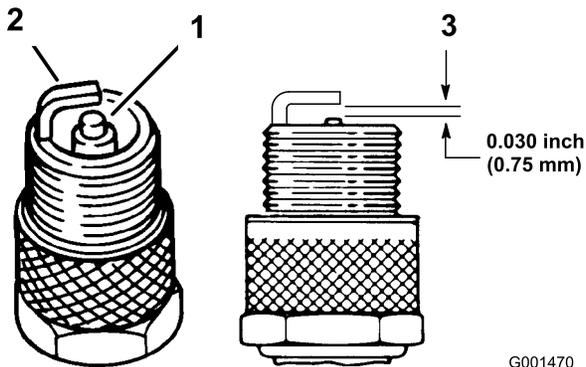

Figure 25
3. Connect the wires to the spark plugs (Figure 25).
1. Look at the center of the spark plugs (Figure 25). If you see light brown or gray on the insulator, the engine is operating properly. A black coating on the insulator usually means that the air cleaner is dirty.
3. Check the gap between the center and side electrodes (Figure 25). Bend the side electrode (Figure 25) if the gap is not correct.